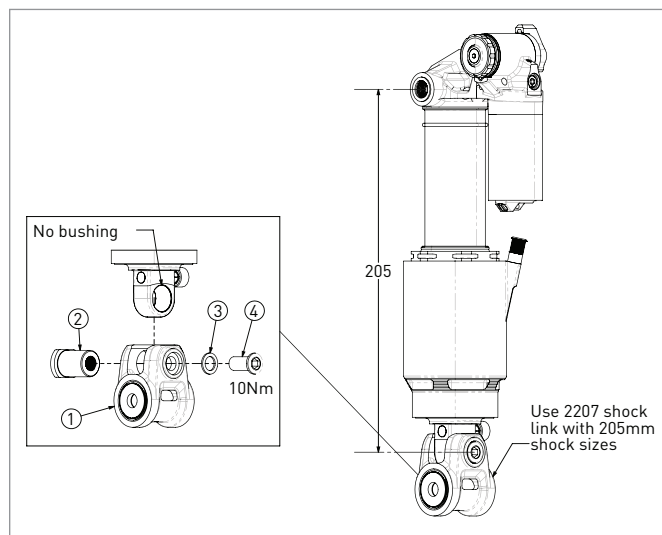

Figure 1
- If the new or serviced rear shock is of a 205mm size, pre-assemble the 2207 shock link assembly to the rear shock (Fig. 1). Do NOT tighten to shock fixing bolt [4] yet, this is done after the assembly is fitted in the frame.
8. Install the new rear shock/ rear shock + link assembly into the frame, loosely threading first the upper two trunnion bolts and secondly the lower flip chip hardware. Once all the hardware is loosely threaded, tighten first the upper two trunnion bolts (torque to specification in 3768 instructions), then the lower flip chip pin (torque to specification in 3744 instruction) and lastly the shock link fixing bolt (4 of Fig. 1) to 10Nm (if present).